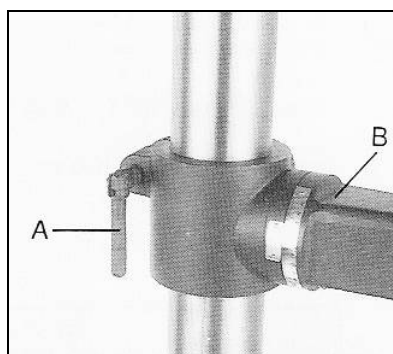

Fig 2
Thread the table bracket lock handle (A, Fig 2) into the table bracket (B).